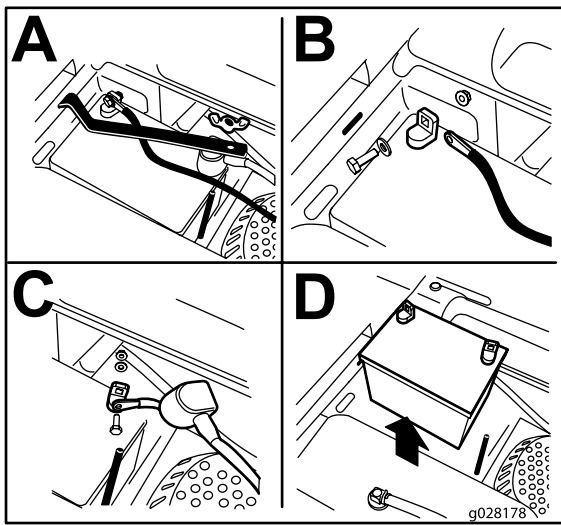

Figure 45
3. Remove the wing nut securing the battery clamp (Figure 45).
4. Remove the clamp (Figure 45).
5. First disconnect the negative battery cable (black) from the negative (-)(black) battery terminal (Figure 45).
6. Slide the red terminal boot off the positive (red) battery terminal and remove the positive (+)(red) battery cable (Figure 45).
1. Position the battery in the tray with the terminal posts opposite from the fuel tank (Figure 45).
4. Secure the cables with 2 bolts, 2 washers, and 2 locknuts (Figure 45).
6. Install the clamp and secure it with the wing nut (Figure 45).